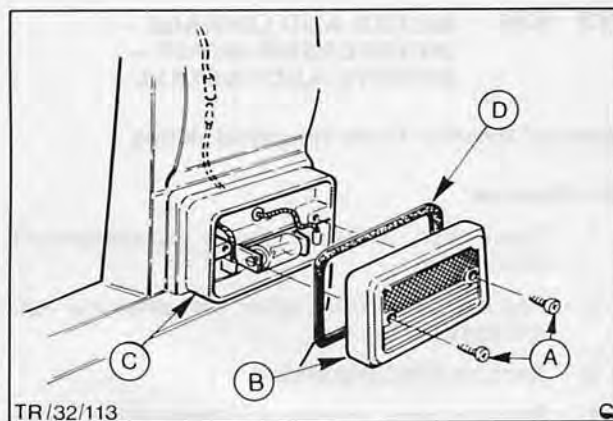

Fig. 13. A – Screws
3. Remove lens and unclip bulb from lamp unit, Fig. 13.
1. Remove two screws securing lamp lens to lamp, Fig. 13.